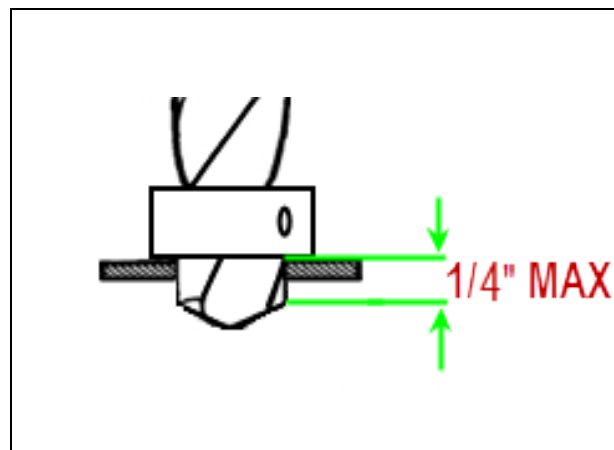

Fig.25
12. Using a 3/16" drill bit and appropriate *drill stop*, drill four (4) holes at the top of the condenser being careful not to go past the specified 1/4" depth (Fig.25).